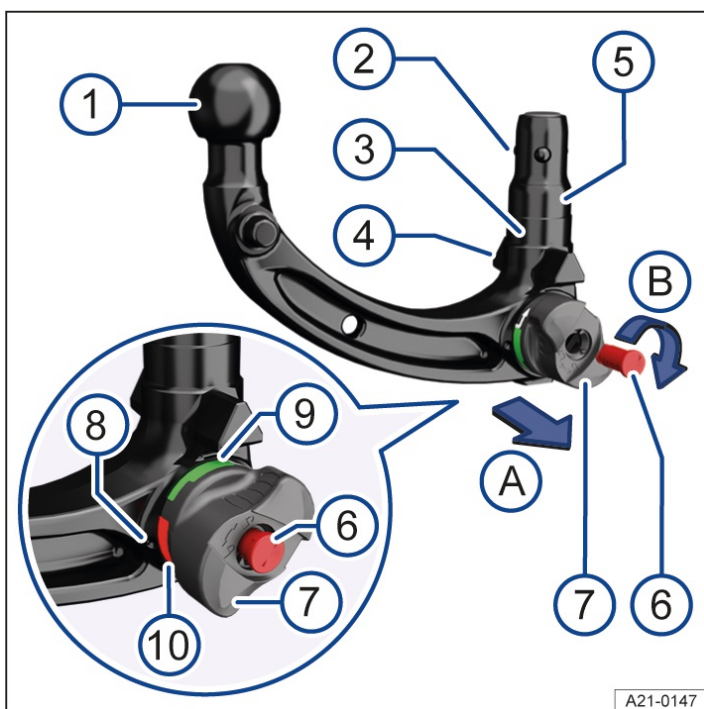

Fig. 1 Overview: removable ball coupling.
1. Before using the removable ball coupling for the first time, make a note of the number stamped on the key → Fig. 1 6. This can be used if you need to acquire a replacement key.
4. Check to ensure that the mounting, handwheel → Fig. 1 8, shank 5 and the retaining balls 2 of the ball coupling are all clean and not damaged → !. Clean if necessary.